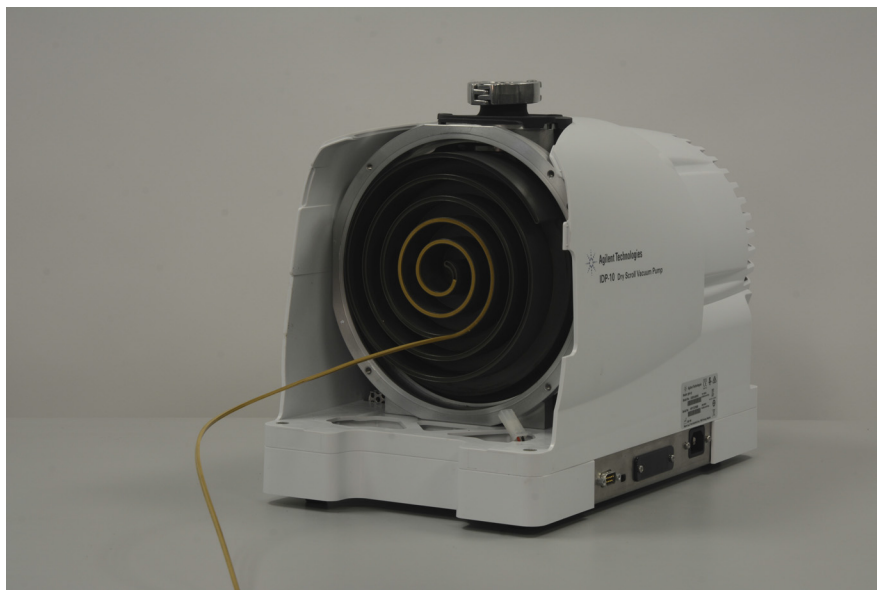

Figure 18. Installing a new tip seal
- 16 Take the spiraled end of the new tip seal and, starting 8-12 mm from the inner end of the tip seal groove on the orbiting scroll, press the seal into the groove (see **Figure 18**). Work your way out until you reach the outer end of the groove.